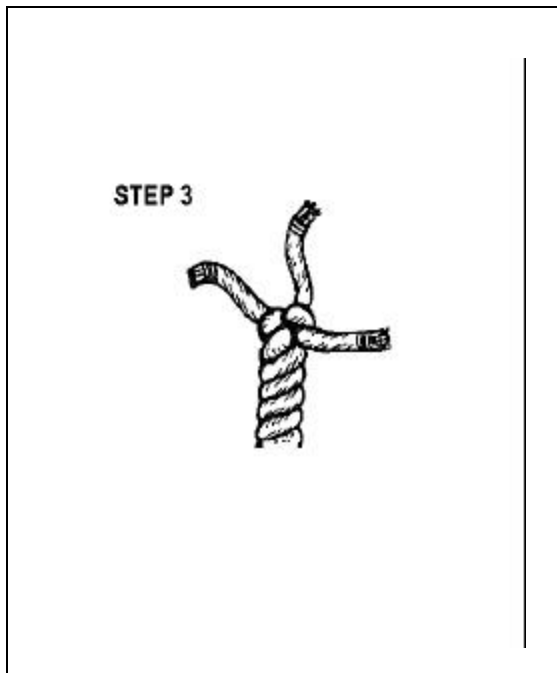

Figure 12-26. Making a Back Splice, Step 3
- **Step 3.** Start the left strand; go over one strand, tuck under the next one, and pull the strand tight (Figure 12-26, page 12-22).